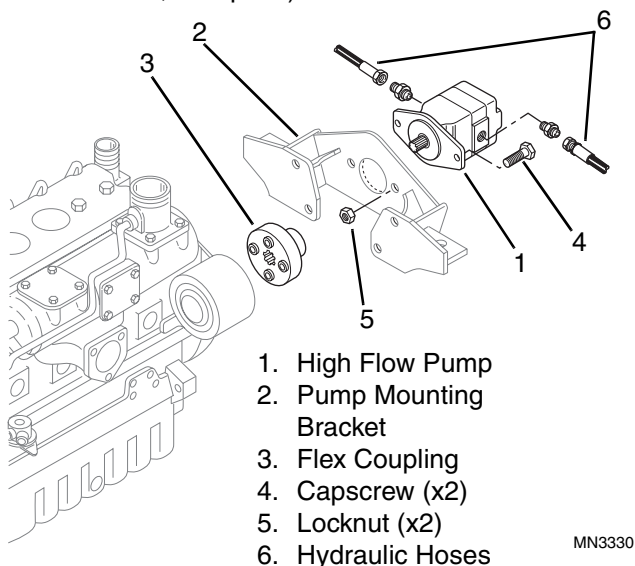

Figure 10-86 High Flow Pump Mounting
- Install the high flow pump (Fig. 10-86, 1) onto the mounting bracket (2) while rotating the pump slightly to insert the pump input shaft into the flexible coupler (3). Secure with two capscrews (4) and new hex locknuts (5).
- Uncap and connect both hoses (Fig. 10-86, 6) to the high flow pump. If the hoses were not tagged during disassembly, refer to Figure 4-71, "High Flow - Supply, Return and Cooling Circuits" for hose connection diagrams.